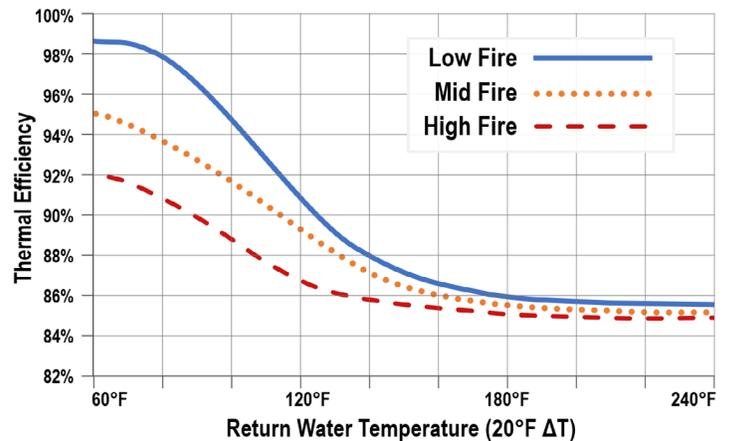

Figure 2: Thermal Efficiency vs. Return Water Temperature3
Commercial condensing boilers need a low return water temperature, typically between 80°F and 120°F, to condense the hot flue gas and operate efficiently. As the return water temperature rises, the Thermal Efficiency (TE) drops as less of the exhaust gas condenses (see Figure 2 below). If operated with high return temperatures, condensing boilers lose much of their efficiency gain over conventional boilers.
In addition to a 94% minimum thermal efficiency (TE), ENERGY STAR certified condensing boilers must have a turndown ratio5 of at least 5 to 1, meaning a 1 million BTU per hour (MBTU/hr) rated boiler must be able run as low as 0.2 MBTU/hr. As shown in Figure 2, condensing boilers run more efficiently at lower loads (i.e., low-fire) versus higher loads (i.e., high-fire). A boiler with a higher turndown ratio can provide heating continuously at lower loads rather than cycling on and off, which leads to inefficient operation. Finally, higher turndown models that don't cycle as often benefit from reduced maintenance cost (e.g., replacing gas valves, ignition transformers, etc.) and longer boiler life due to reduced expansion and contraction of metal components. ENERGY STAR certified commercial boilers are appropriately sized for smaller buildings, or for use in a modular system (see tip 9).